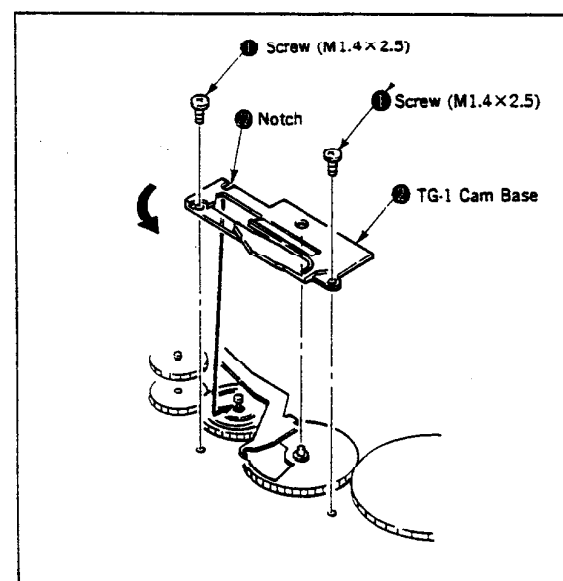

Fig. 35
- 8) Put the TG-1 cam base ③ in place, fit the notch ⑤ to the shaft and shift it in an arrow direction, and mount the screws ② and ⑲ in that order. (Fig. 35)